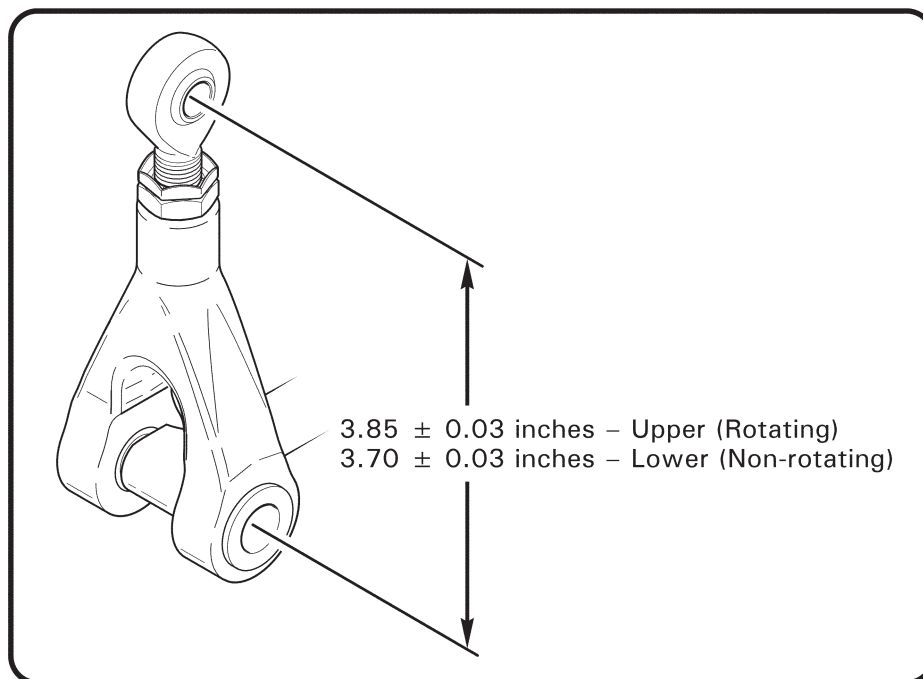

FIGURE 18-9 A205-7 FORK DIMENSIONS FOR SWASHPLATE SCISSORS
1. Refer to Figure 18-9. Adjust swashplate A205-7 lower fork assembly (non-rotating) to  $3.70 \pm 0.03$  inches, and upper fork assembly (rotating) to  $3.85 \pm 0.03$  inches.